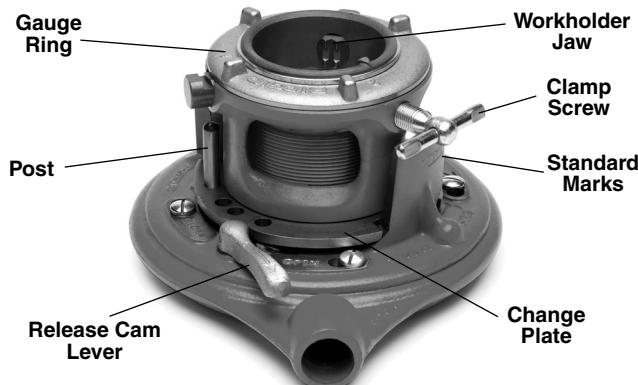

Figure 1 – 65R-C Threader
1. Place threader with workholder up (*Figures 1 and 2*) and unscrew workholder by turning counter-clockwise until change plate is clear of posts.
65R-C: Turn gauge ring until desired pipe size corresponds with mark on top of workholder (*Figure 1*).